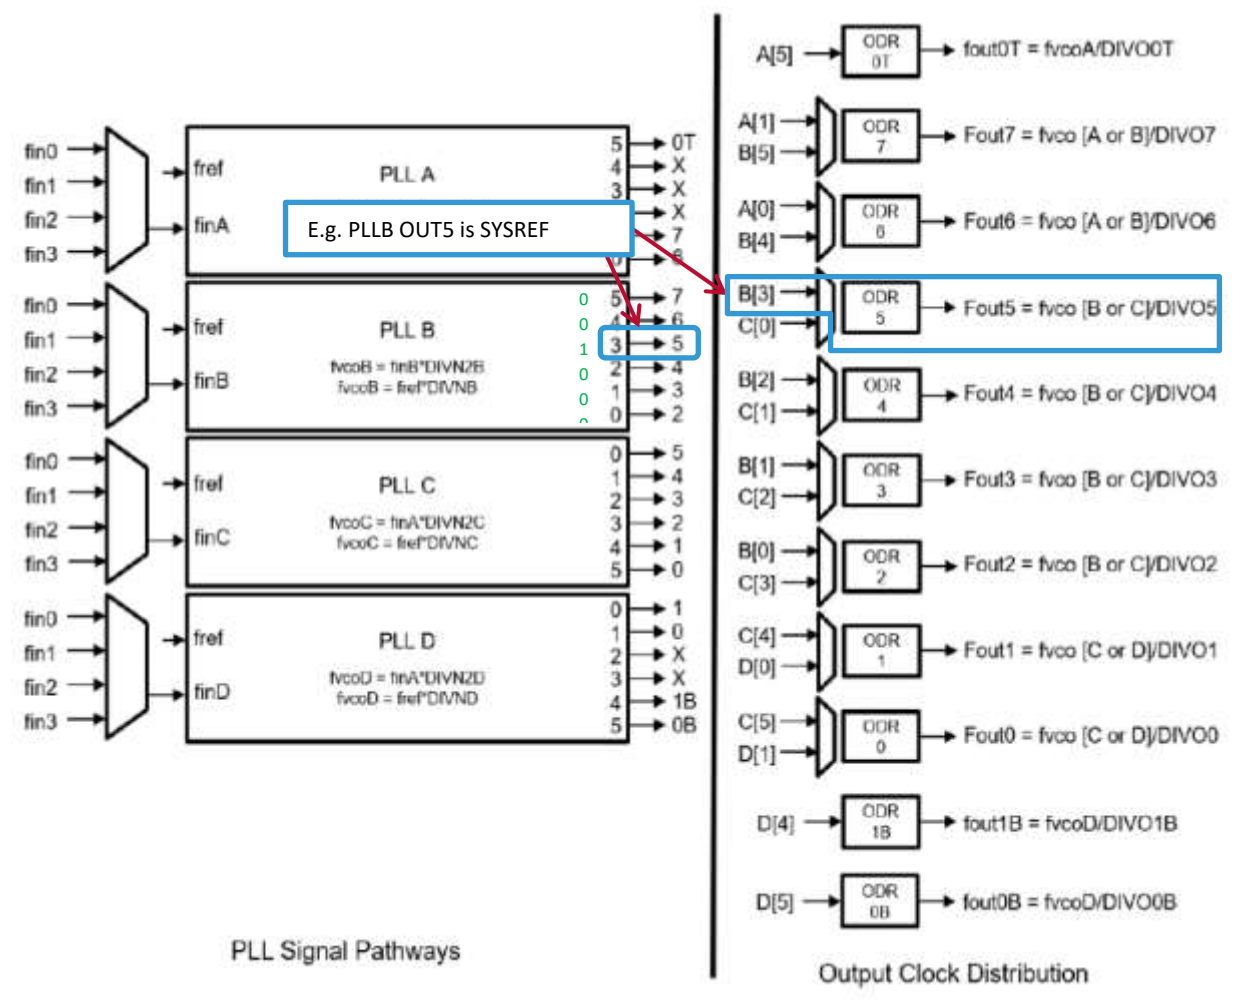

Figure 82: SiT95148 overall clock hierarchy
6) Update bit s[5:0] of register **0x09** as per one hot active encoding (see Figure 82) of the **SYSREF** output. This means that SYSREF can be connected to the one of the PLL outputs and to decode it in register 0x09, we need to write appropriate value for PLL B.
- For example, if **PLL B Output 5** is the **SYSREF** output, write **0x08 (001000_b)** to register **0x09**, see Figure 82.